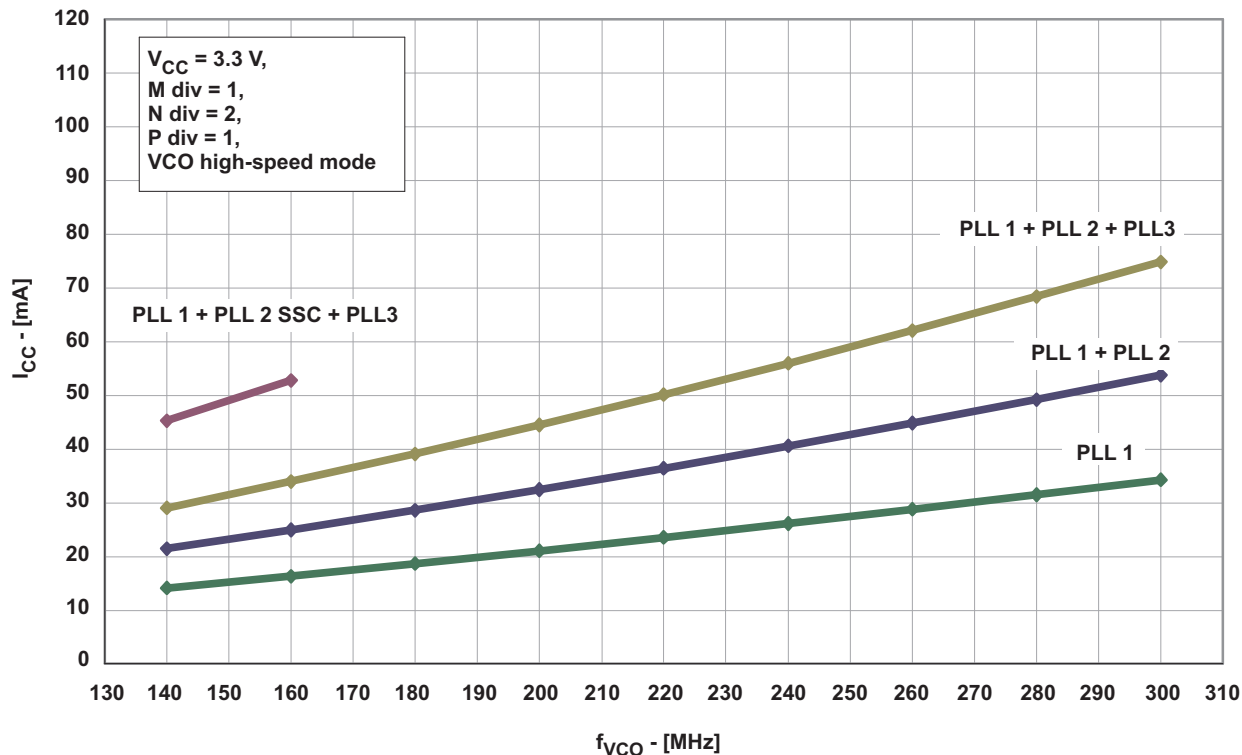
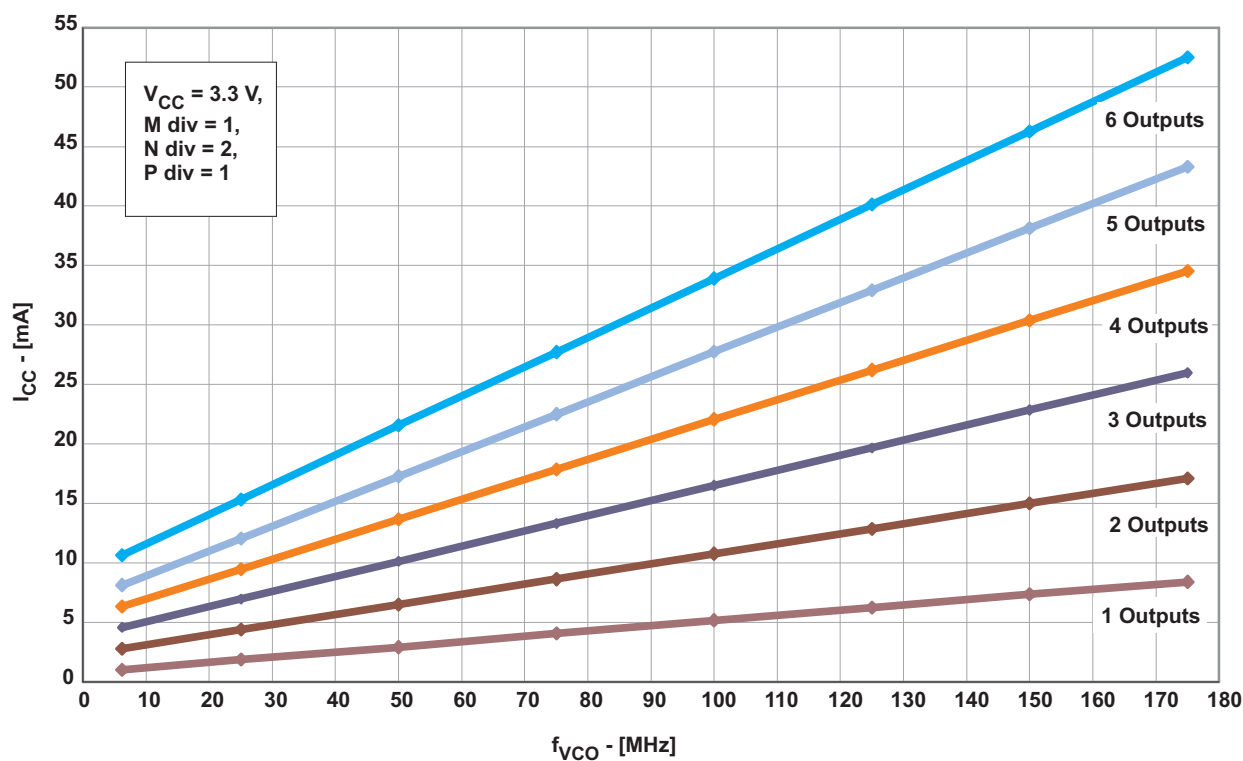
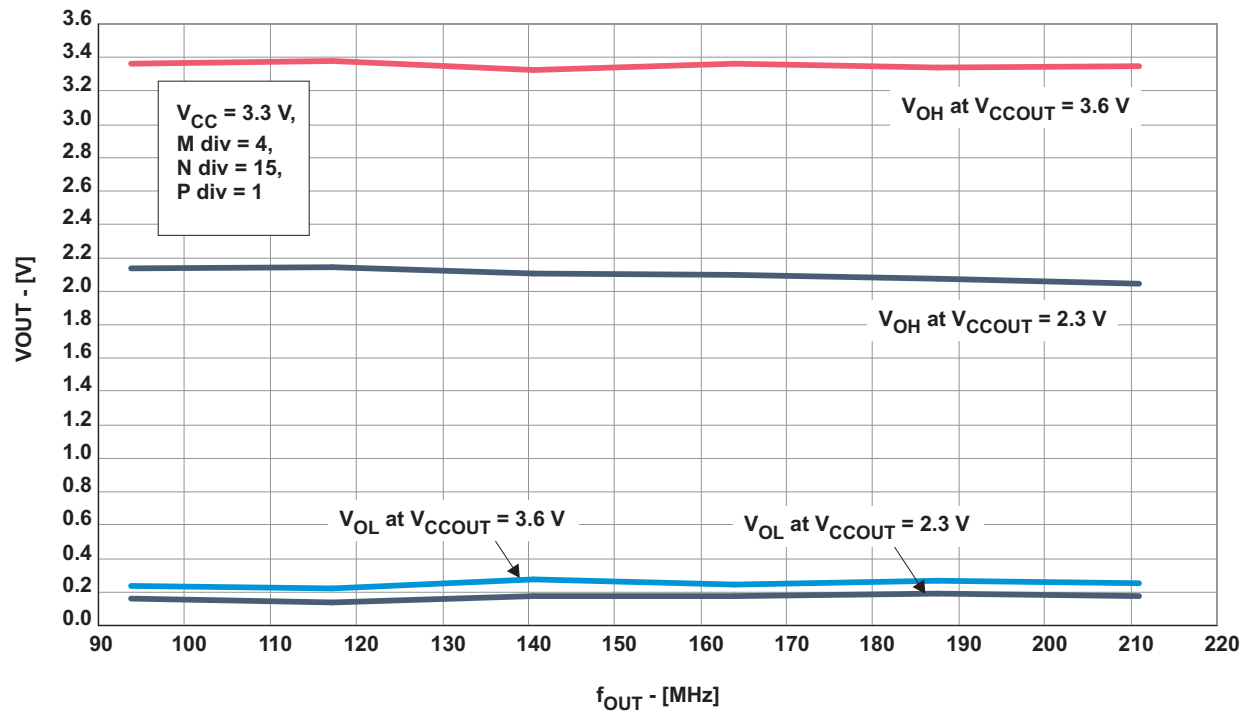

Figure 3. I_{CC} vs Number of PLLs and VCO Frequency (VCO at High-Speed Mode, Byte 6 Bit [7:5])
Figure 4. I_{CCOUT} vs Number of Outputs and VCO Frequency
Figure 5. Output Swing vs Output Frequency
(1) All typical values are at respective nominal V_{CC} .
(2) For calculating total supply current, add the current from Figure 2, Figure 3, and Figure 4. Using high-speed mode of the VCO reduces the current consumption significantly. See Figure 3.
(3) Normal-speed mode or high-speed mode must be selected by the VCO frequency selection bit in Byte 6, Bit [7:5]. The min $f_{(VCO)}$ can be lower but impacts jitter-performance.
(4) The maximum output frequency may be exceeded, but specifications under the Recommended Operating Condition may change and are no longer assured. Do not exceed the maximum power dissipation of the 20-pin TSSOP package (600 mW at no air flow). See Figure 5.
(5) 50000 cycles.
(6) Jitter depends on configuration. Jitter data is for normal t_r/t_f , input frequency = 27 MHz, $f_{(VCO)} = 147$ MHz output.
(7) The $t_{sk(o)}$ specification is only valid for equal loading of all outputs.